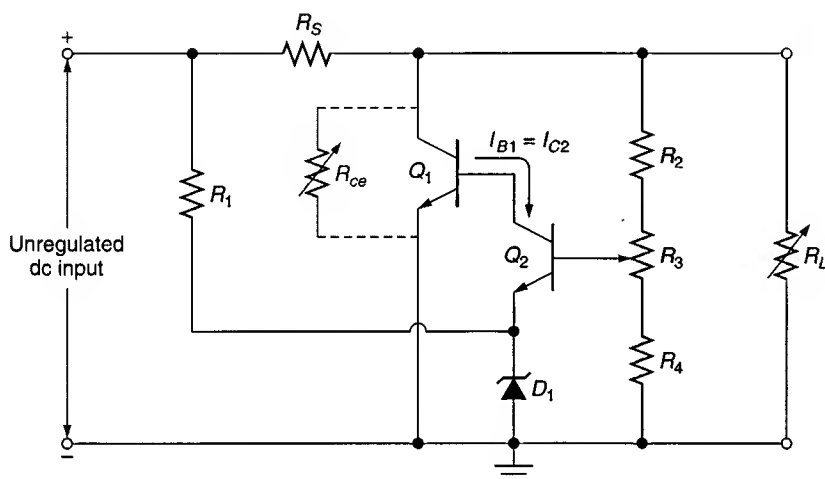

FIGURE 21.9 Shunt transistor in a shunt feedback regulator.
The **shunt feedback regulator** uses an error detector to control the conduction of a *shunt transistor*. This shunt transistor is shown as Q_1 in the shunt feedback regulator in Figure 21.9.
Several things can be done to ensure that any increase in unregulated dc input voltage will not destroy the shunt transistor. First, you can use a transistor whose $P_{D(max)}$ rating is far greater than the maximum power dissipation that would ever be required in the circuit. For example, assume that the regulator in Figure 21.9 has an input voltage that can go as high as 20 V and that the regulator is designed to provide a regulated 10 V_{dc} output. The worst-case value of transistor current can be approximated using
6. Which of the transistors in Figure 21.9 requires a higher power dissipation rating than the other? Why?